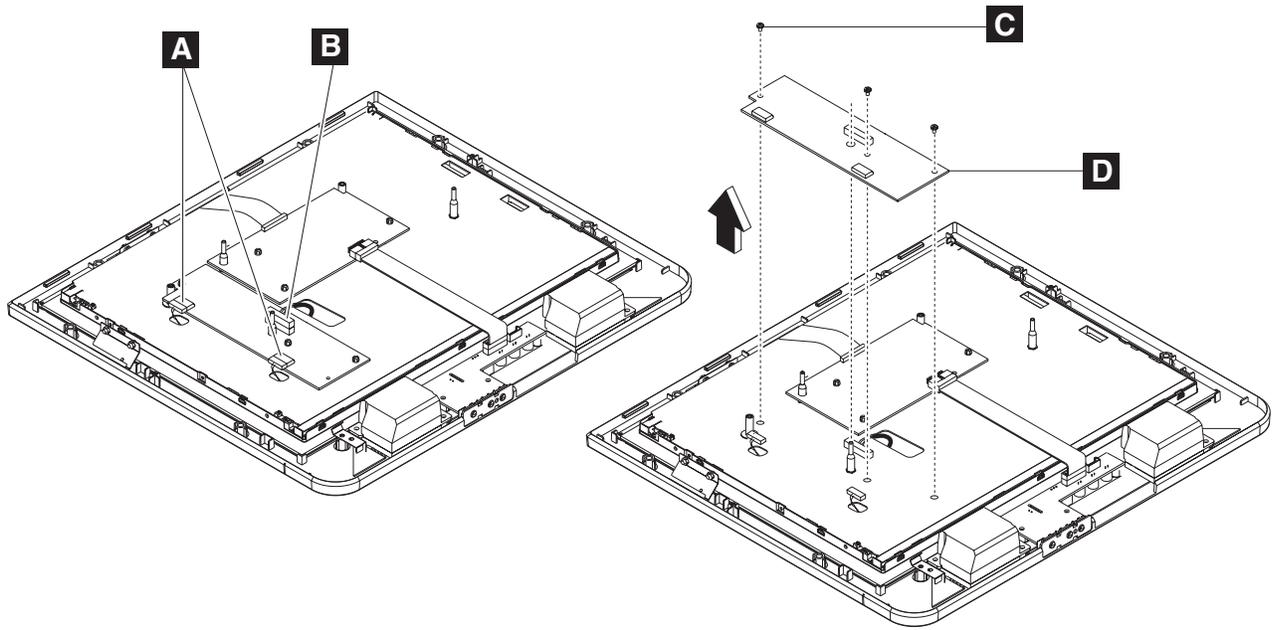

Figure 28. Removing the backlight inverter card
4. See Figure 28. Disconnect the following from the card:
- Back light cables (2) (**A**)
- LCD backlight connectors (2) (see **A** in Figure 28 on page 41)